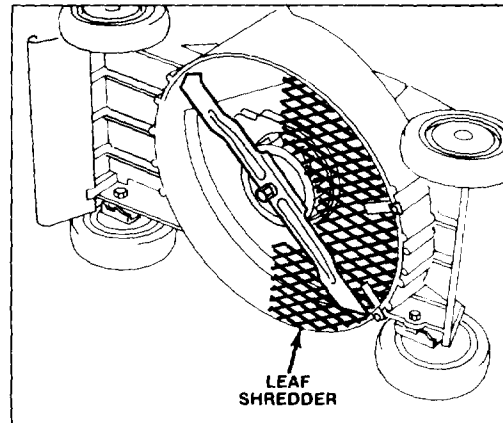

Figure 8
**SHRED LEAVES** — In fall, optional leaf shredder (Fig. 8) reduces leaves to a fraction of their original size while you bag. Minimizes emptying stops and number of trash bags used for disposal.